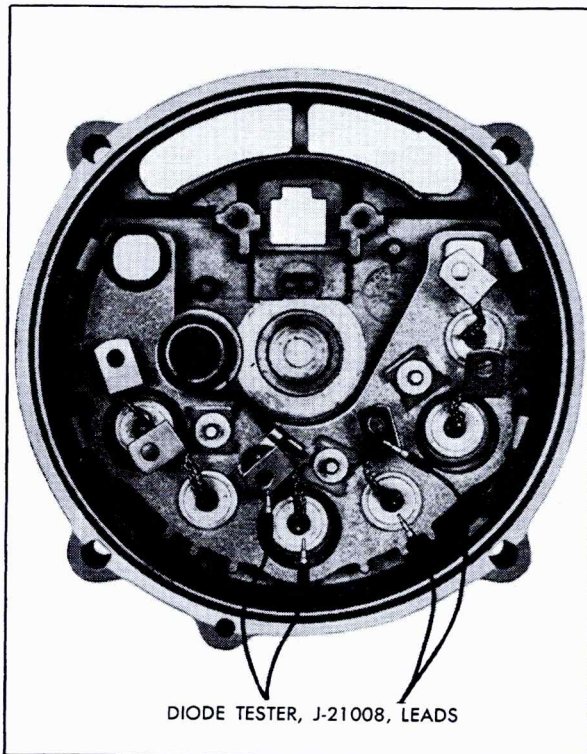

Fig. 6-27 Diode Checking
2. Connect Test Light, J-21008, leads across each diode, first in one direction and then in the other, Fig. 6-27.